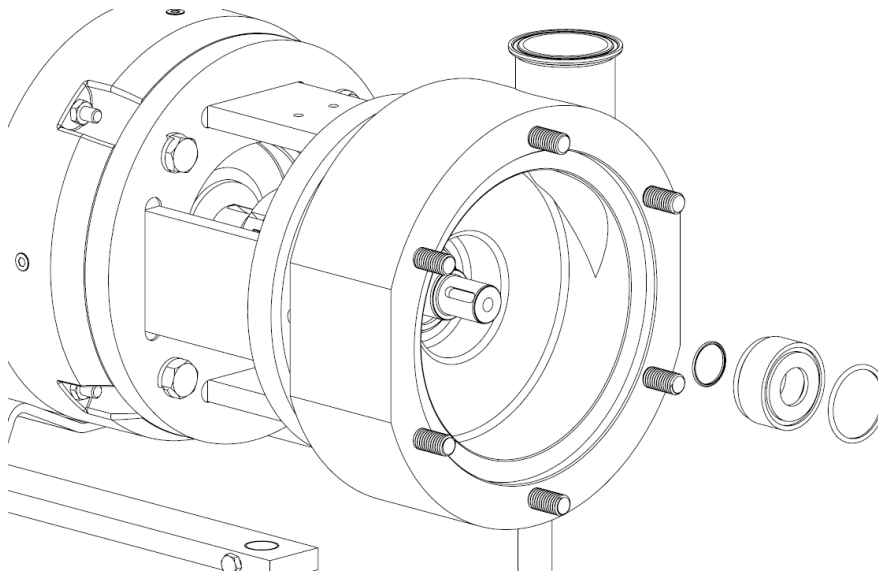

Figure 15
7. Install inner seal driver O-ring, then slide the rotating seal assembly onto the stub shaft, as seen in Figure 15, against the stationary seal. Be sure the outer seal driver O-ring is in the O-ring groove of the seal driver.